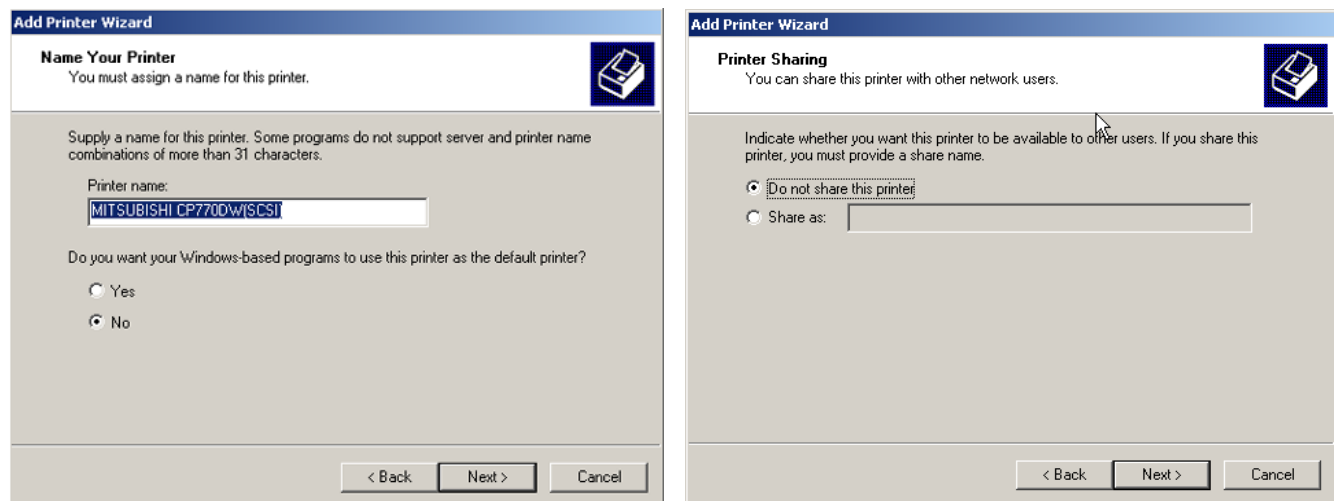

Figure 3-41 Assign name and select Printer Sharing - no
15.) Assign a name, decide if the printer should be used as default printer and confirm with NEXT. see: Figure 3-41.
16.) Select 'Do not share this printer' and confirm the "Printer Sharing" window (Figure 3-41) by clicking NEXT.